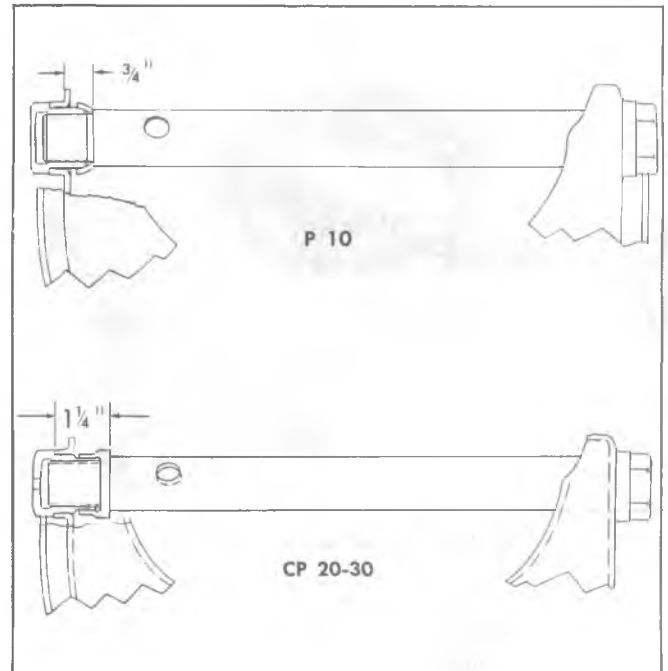

Fig. 3C-20--Positioning L.C.A. Shaft (Steel Bushings)
3. Loosen upper control arm ball stud in steering knuckle, using Tool J-23742 position as shown in Figure 3C-21. Remove the nut from the ball stud and raise upper arm to clear steering knuckle.